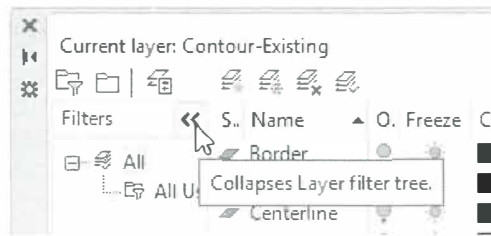

Figure 7–17
- If you do not use layer filters, you can hide that portion of the Layer Properties Manager by clicking **<<** (Collapses Layer filter tree), as shown in Figure 7–17.